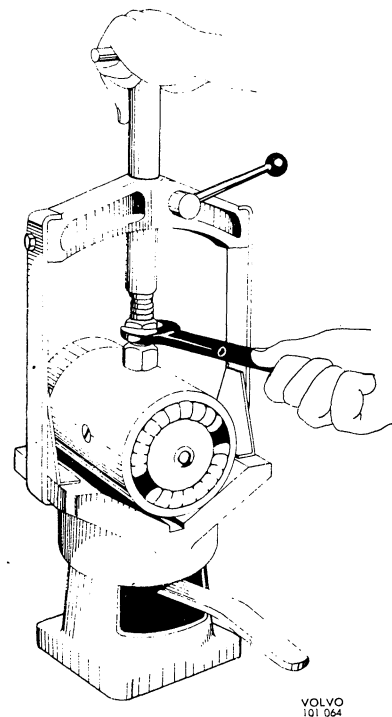

Fig. 3-66. Rotating clamping block for removing field windings
3. Then place the stator in the rotating clamping block as shown in Fig. 3-66 (Bosch EF AW 9) or similar and unscrew the pole screws.